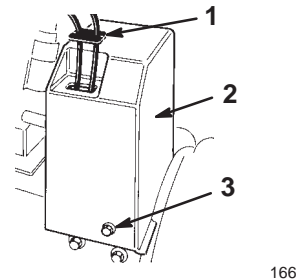

Figure 5
3. Flange-head bolt (3)
15. Slide the cable cover onto the cables and into the hole in the belt cover (Fig. 5).